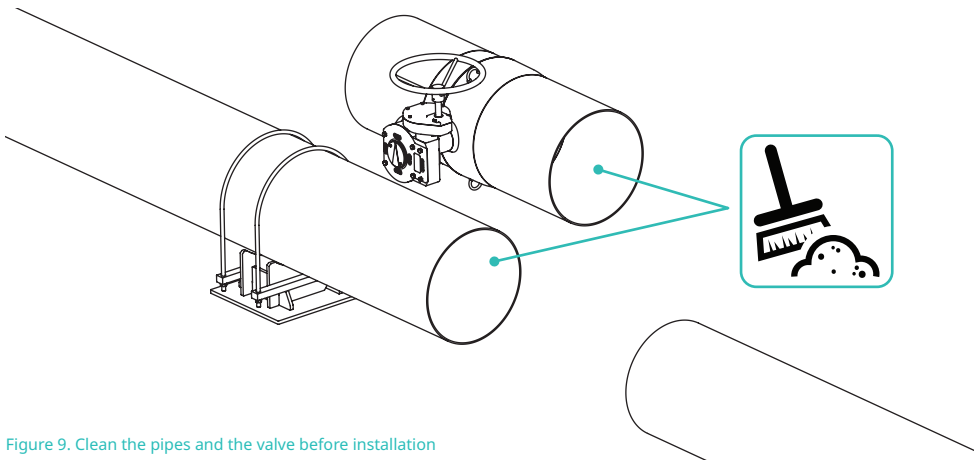

Figure 9. Clean the pipes and the valve before installation
2. Clean the pipes and the valve, see Figure 9
Especially a control butterfly valve should be installed after a centrifugal pump so that stem axis is at 90° angle in relation to the pump shaft axis, see figure 9. However, if two valves are installed one after the other, the stems must be perpendicular to each other.